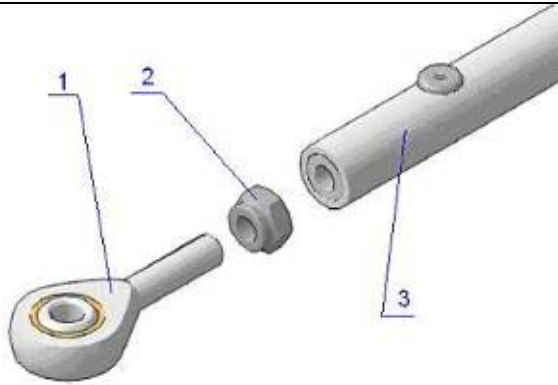

Fig. 57-52-6
6 Connect the rod (3) (KA6020030R) with the bearing (1), that is fixed to the aileron root rib as shown (Fig. 57-52-6).